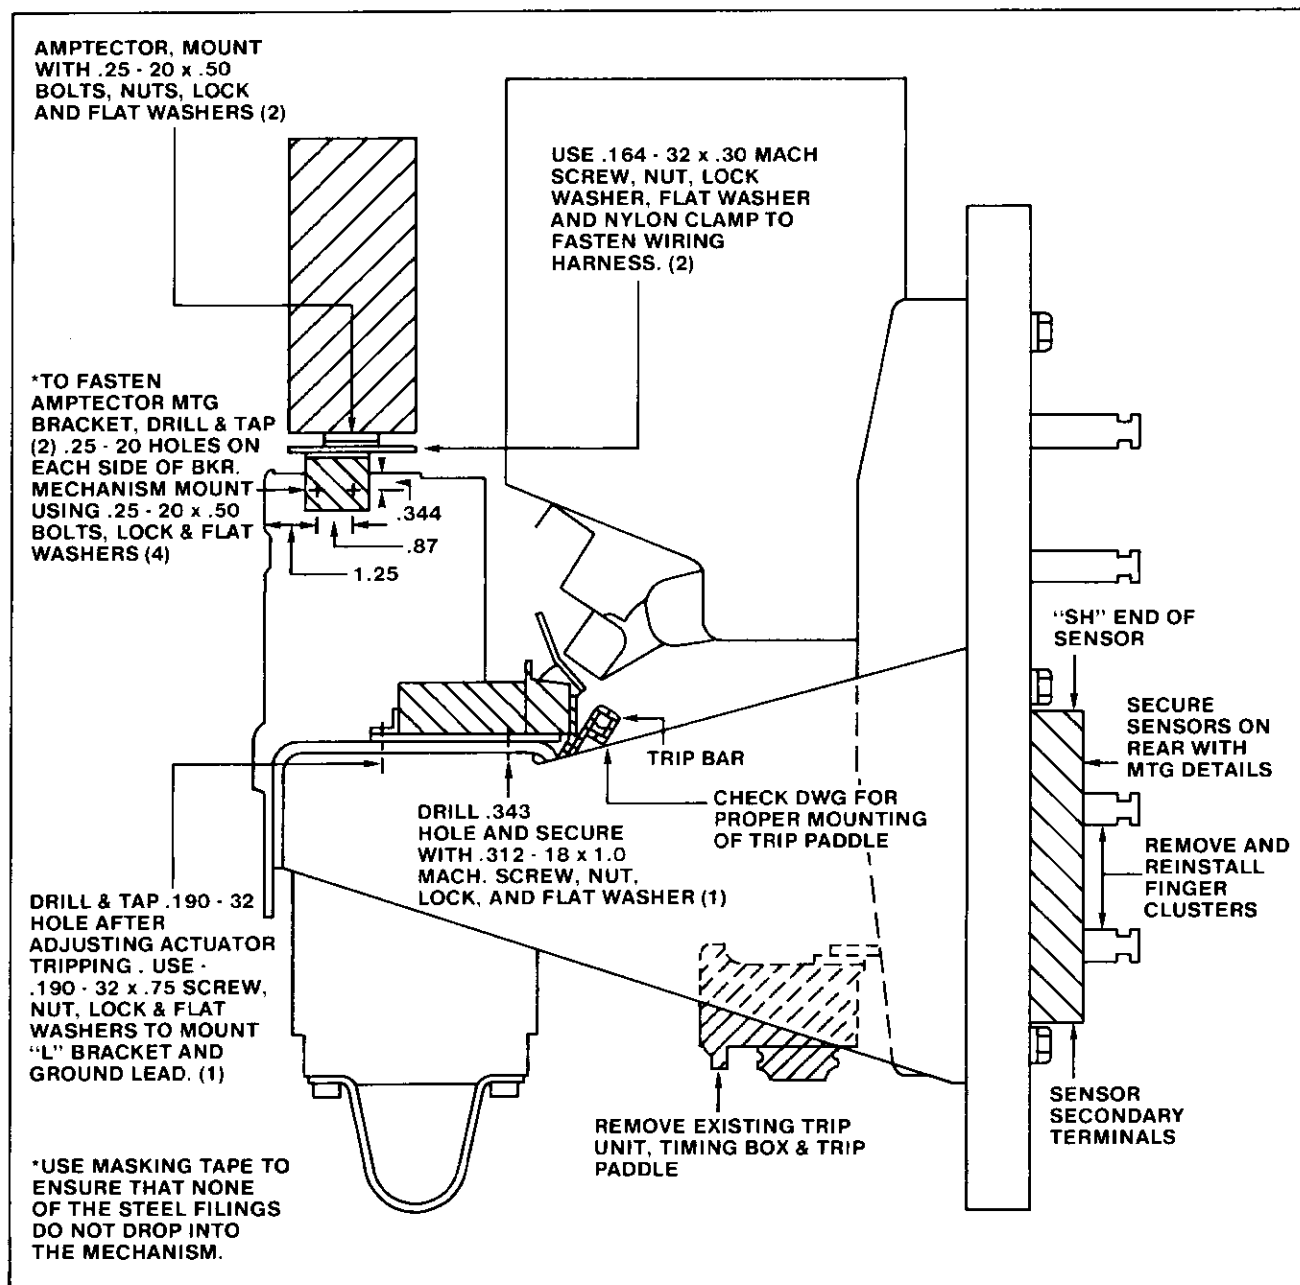

Fig. 23 Right Side View of DB-75 and DB-100
- B. Familiarize yourself with the right hand side view of the breaker, Fig. 23.
2. Drill and tap four (4) .25-20 holes, two (2) on each side .87" between centers, 1.25" from the front, and .344 from top of breaker mechanism side frames, see Figs. 23 and 28. It is recommended that .125 dia. holes be drilled first.
9. Wire the leads to the sensors and secure the wiring harness to the amptector mounting plate using the .203 dia. holes and .164-32 x .5 screw, nut, washers and nylon clamps, Fig. 23.